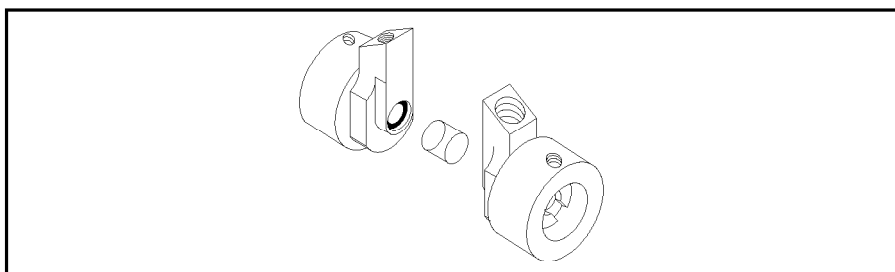

Figure 4-22. Placing Gaskets in Cell Pieces
9. Wet the cell piece surface and put one gasket in each cell piece, see Figure 4-22.